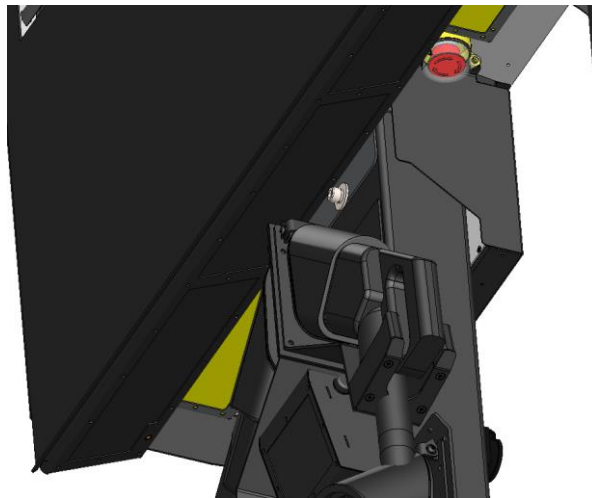

Figure 7.1. Location of the screw on the rear side of the device
1. Remove the screw on the back side of the ChS (Fig. 7.1).